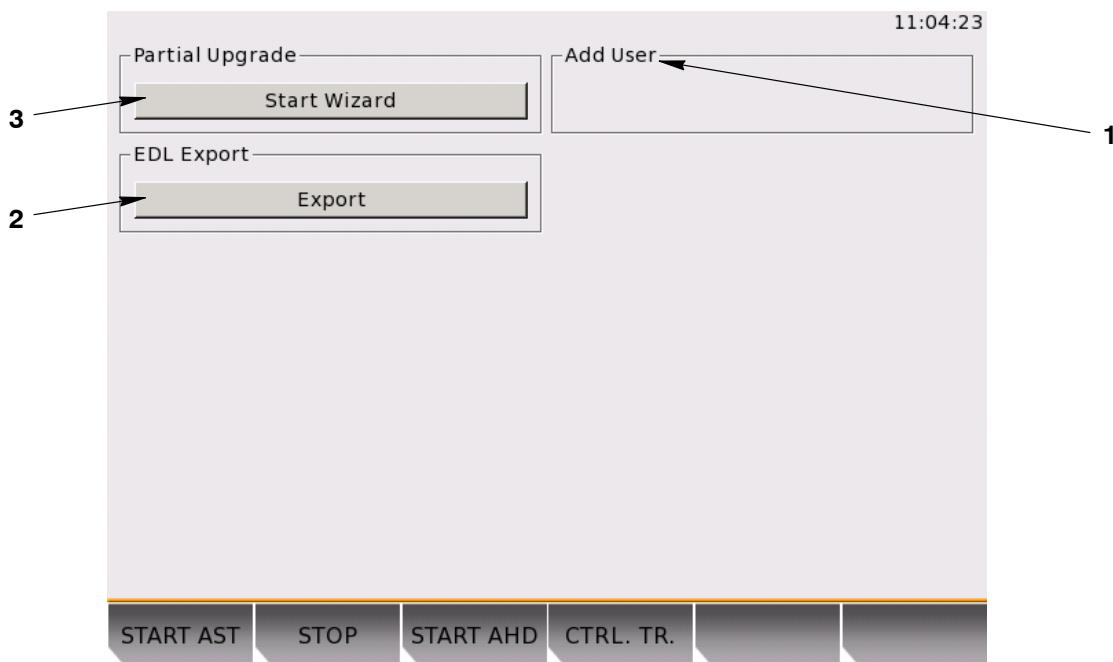

Fig. 31: USB Page
- 1) Connect a USB drive to the USB port on the rear of the LDU before you select the Export button (2, Fig. 31).
- 2) Use the rotary button to put the cursor on the Export button (2). Push the rotary button to select Export.